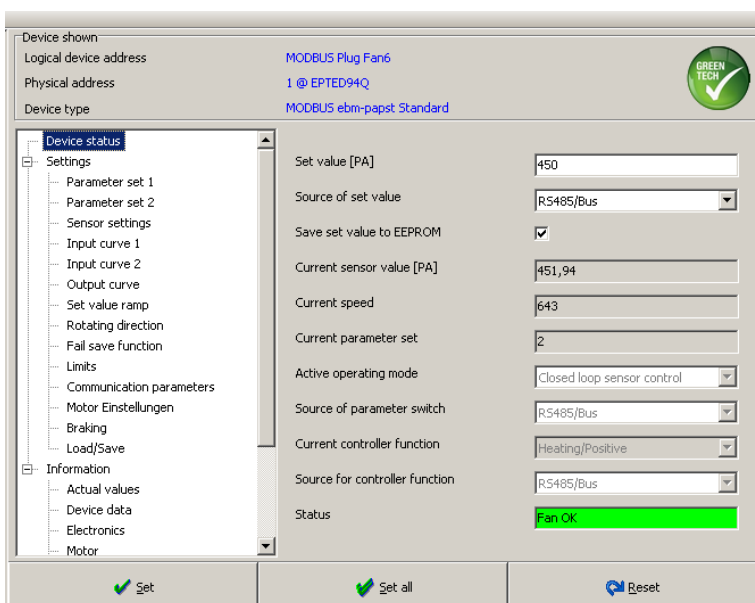

Fig. 60: digital setting of values for parameter set 2, differential pressure 450 Pa, enter set value for night switching
- Under Overview, activate the function Save set value to EEPROM (see Fig. 60)
- Under Overview, enter the set value (see Fig. 60)